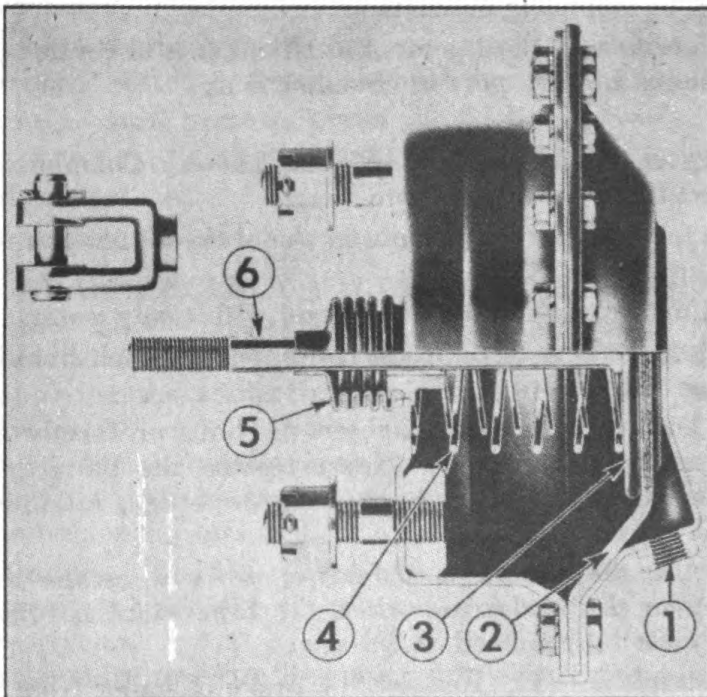

FIGURE 25. SERVICE BRAKES—AIR CHAMBER
15. **BRAKE CHAMBERS** (Fig. 25).—*a.* This trailer is equipped with six brake chambers. They are all interchangeable.
b. Function.—The function of the brake chamber is to convert the energy of compressed air into the mechanical force necessary to expand the brake shoes against the brake drum and apply the brakes. Air pressure from relay emergency valve enters port (1) behind the flexible diaphragm (2). The force developed moves the flexible diaphragm, moves the push plate (3) and attached push rod (6), so as to rotate the brake cam and apply the brakes.
c. Adjustment.—(1) The stroke of the brake chamber push rod is limited, therefore, the brake must be adjusted (see Brake Minor Adjustment) to keep the push rod stroke within the correct limits. The stroke should never be permitted to exceed $1\frac{3}{4}$ " and when the brakes are adjusted, the stroke should be as short as possible without the brakes dragging. This minimum stroke is usually about $\frac{3}{4}$ ".